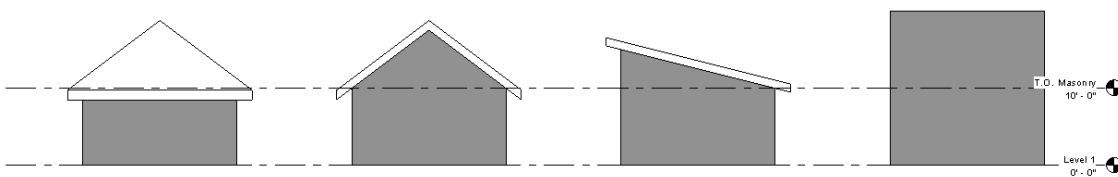

FIGURE 7-1.10 South elevation – shed roof
37. Switch to the **South** elevation view (Figure 7-1.10).